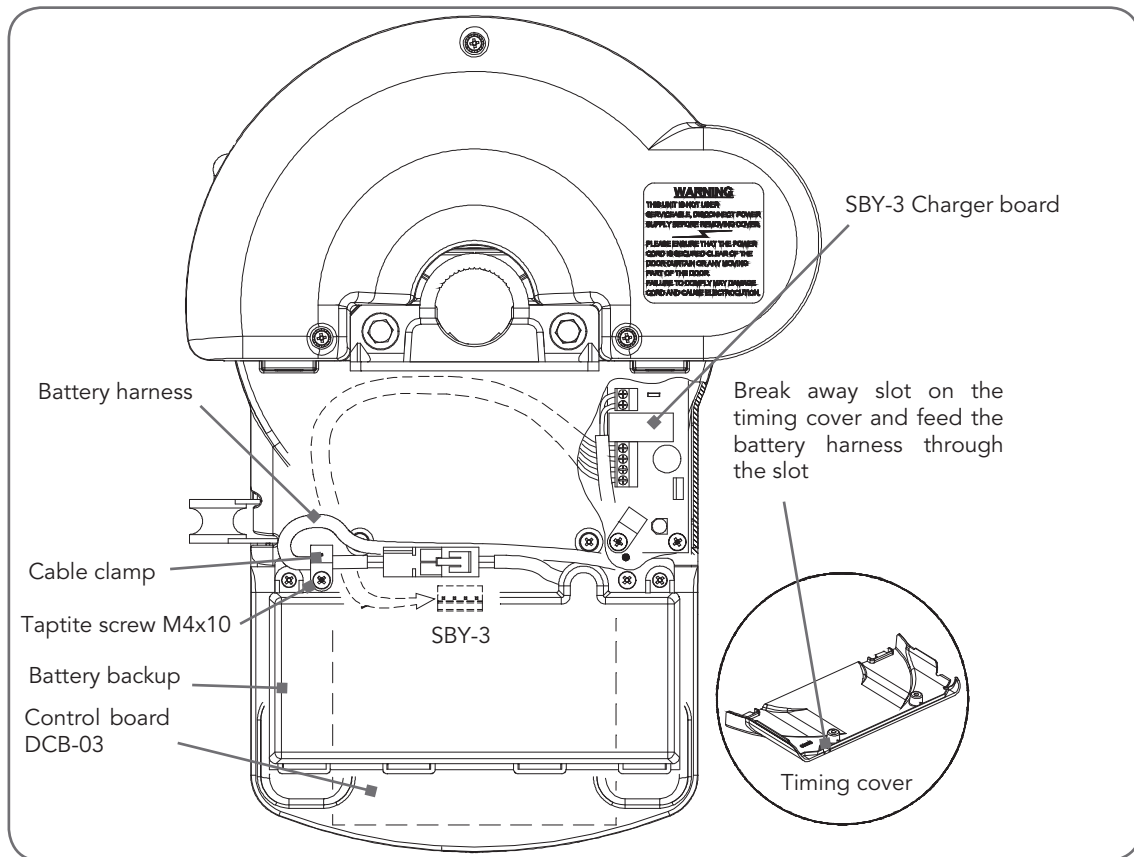

Fig 40
- Remove cable clamp and screw (Fig. 40). Retain cable clamp for later use.
- Mount the SBY-3 Charger Board on base and secure with four (4) Taptite 'P' M4 x 8 screws.
- Feed 4-Wire harness around timing assembly, through opening and plug into control board's SBY-3 connector (Fig. 40).
- Connect battery harness together (Fig. 40).